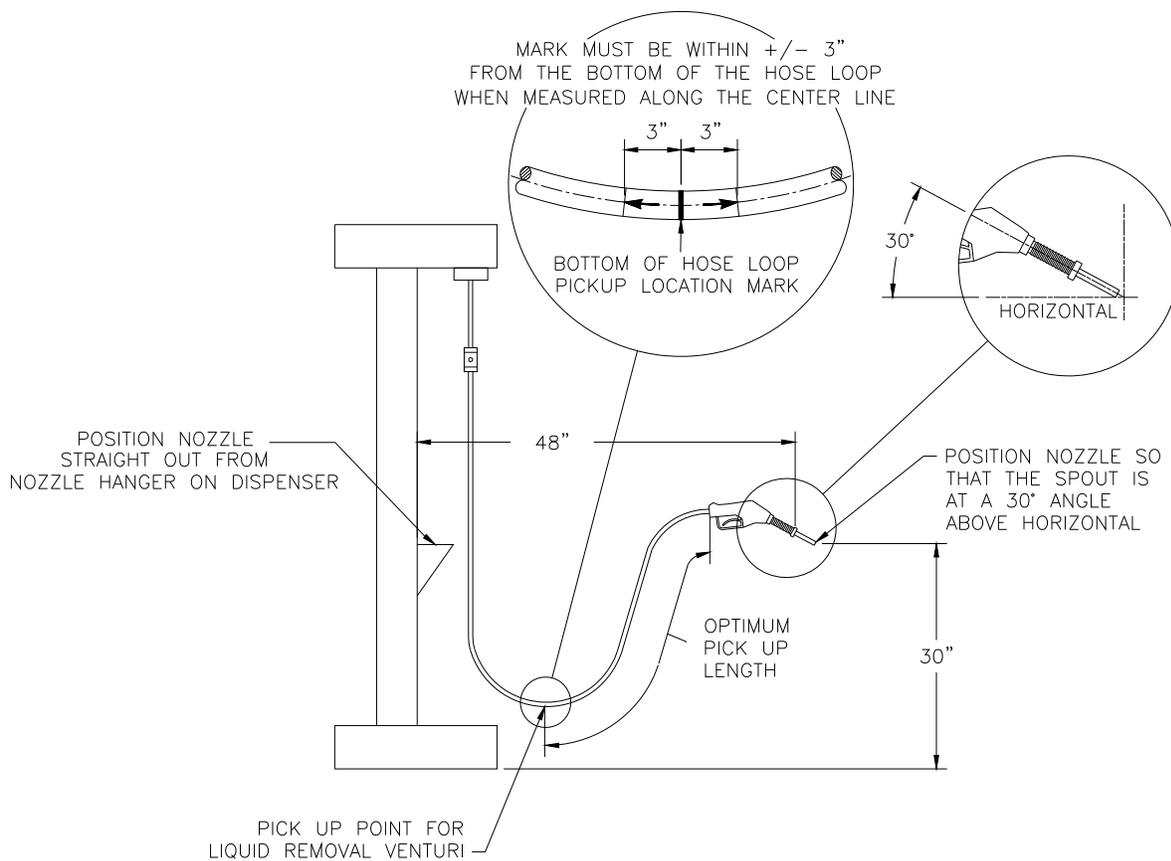

FIGURE 1
- a) Hold the nozzle and hose in the position shown in Figure 1;